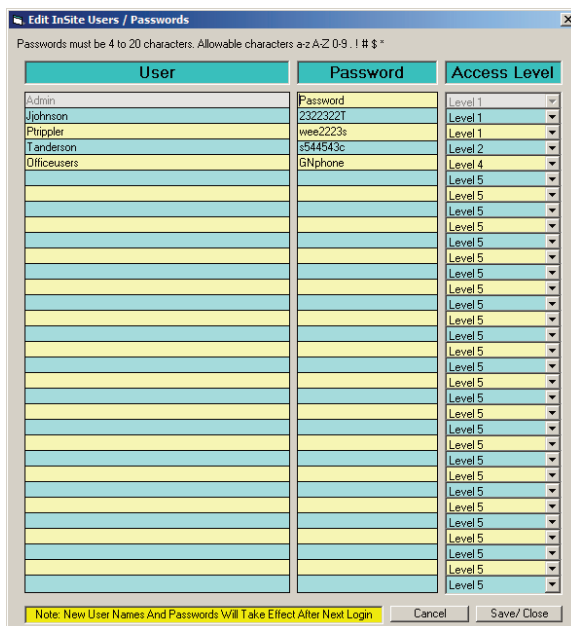

Figure 2.23 User and Passwords
3. Enter a new user names, passwords, and access level for each user as shown in figure 2.23.